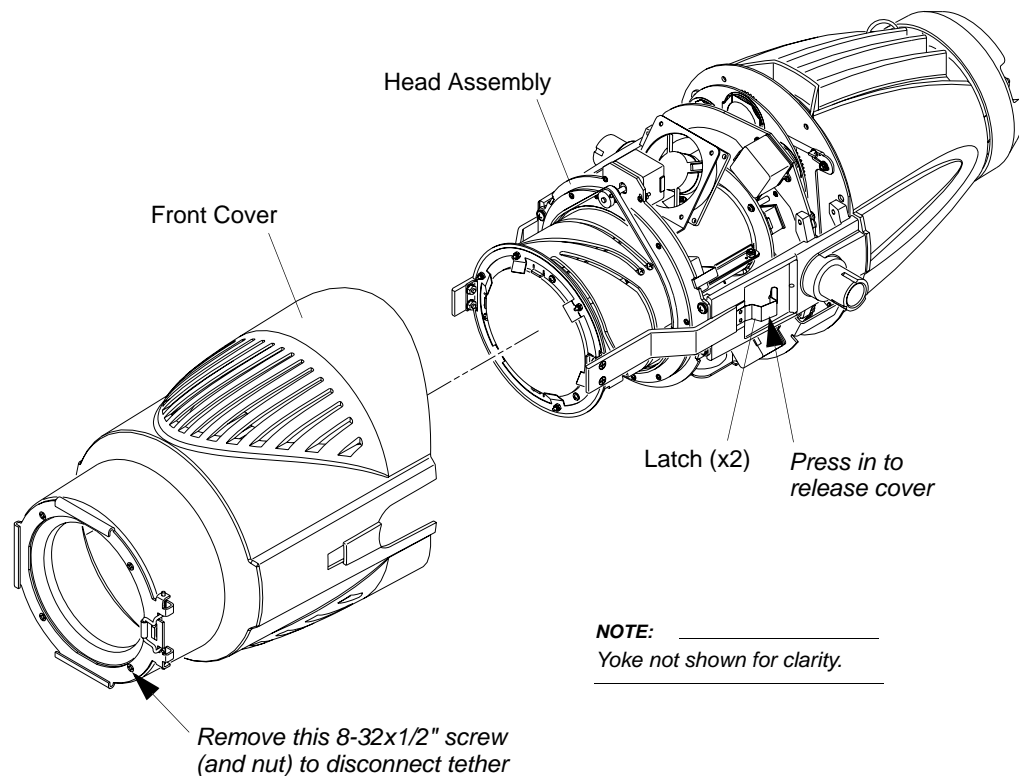

Figure 2-7: Front Cover Removal/Replacement
- Step 2. At head assembly, press in front cover latches to release (**Figure 2-7**).
- Step 2. At either side of head assembly, press in front cover latch and pull cover straight back until stopped by tether (**Figure 2-7**).